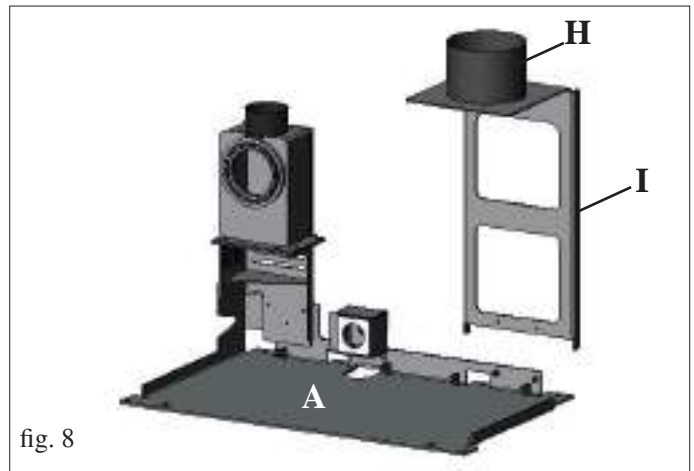

fig. 8
- Install the bracket for centring the pellet loading tube (I – Fig. 8) on the base plate (A).
Fit the pellet loading tube (L - fig. 9) on the collar of the bracket collar (H - fig. 8), securing it with the clamp supplied (M - fig. 8).